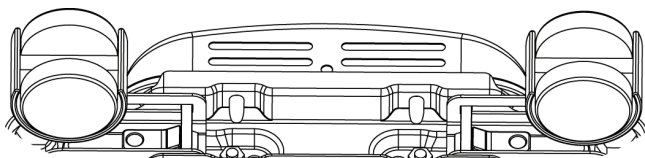

Figure 2
- 2 Pull the castors with the stand together towards the outside flank of the heateroil radiator, until the inverted buckles of the hooks on the stand are firmly locked, as illustrated in Figure 2. When the buckles are in such positions, a "poop" sound will be heard;